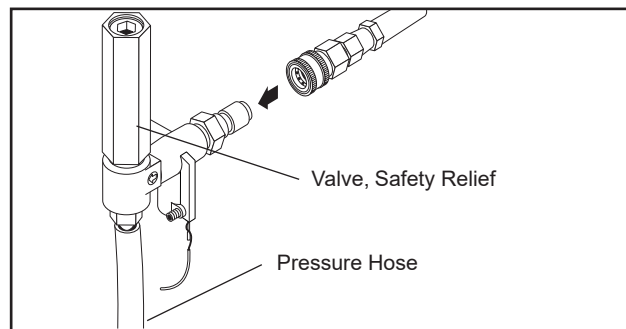

Figure 2 - Pressure Hose
2. Install the pressure hose on the pressure washer as shown in Figure 2.